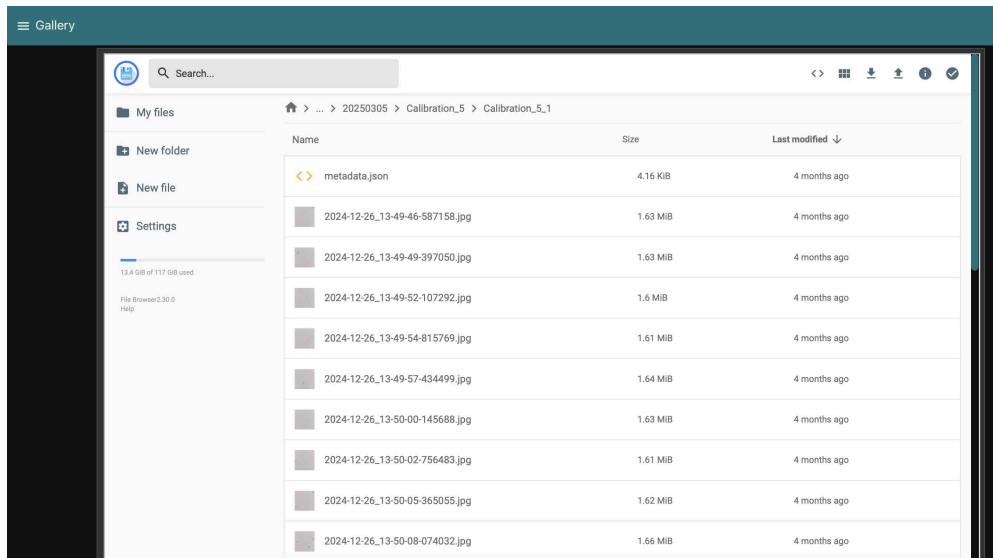

Figure 1: Access to metadata file of a sample
3. The **metadata** file(metadata.json) should be visible (Fig.1) and open it.